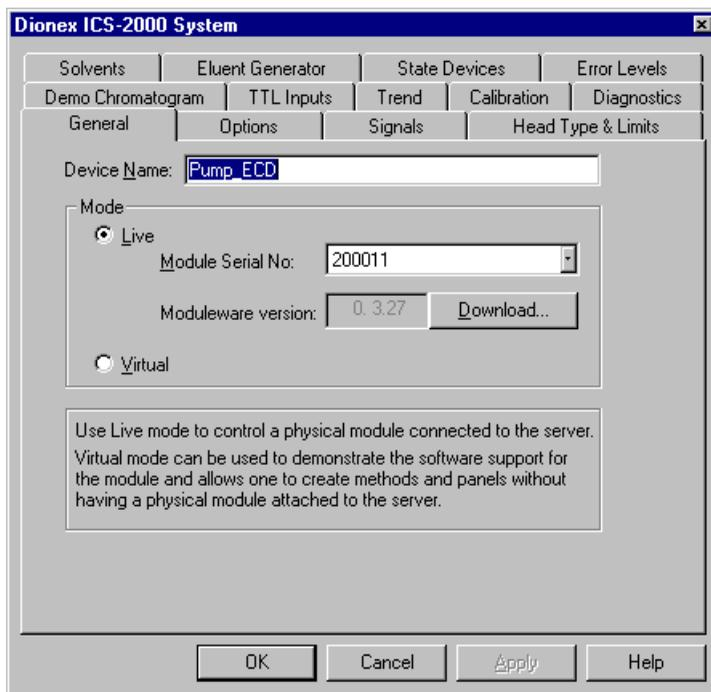

Figure B-13. ICS-2000 System Properties
- The ICS-2000 System dialog box opens (see Figure B-13). The **General** page shows the Device Name (**Pump_ECD**), the Mode (**Live**), and the Module Serial No.